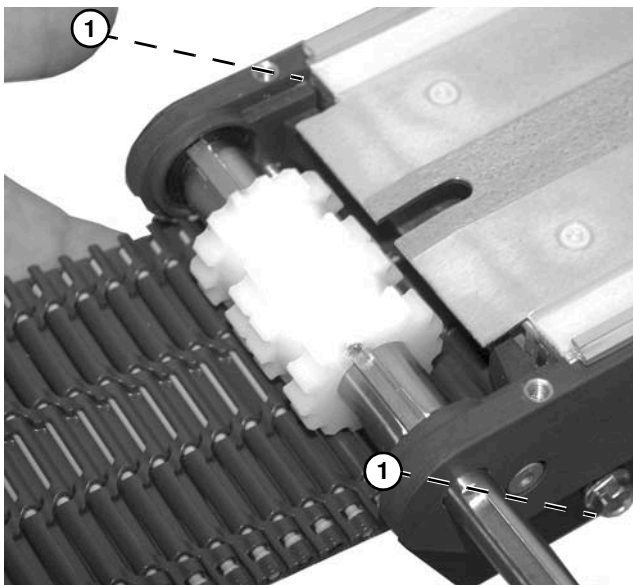

Figure 30
7. Remove belt by pulling belt out of bottom wear strips (Figure 30, item 1).